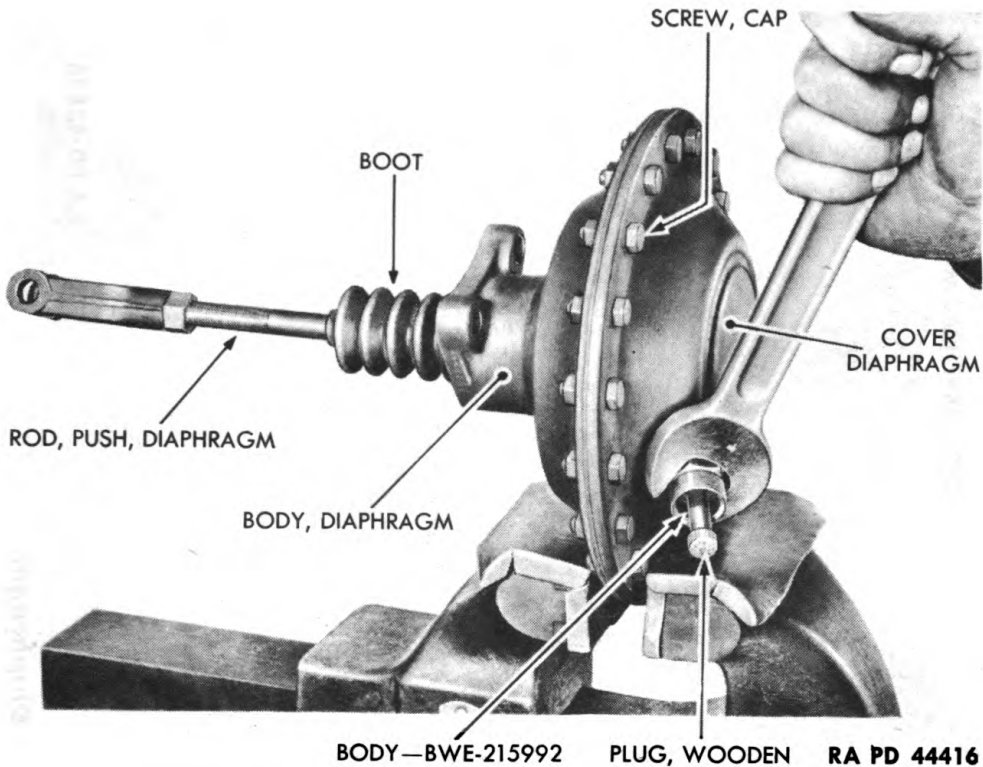

Figure 297—Removing Hose Connector Body
(3) Remove four cotter pins BFAX1CC from two pins A173500. Tap pins out of latch A173504 and rod A173506.
(4) Slide rod and spring A173502 out of lug on lever B159951.
(5) Repeat procedure as described in steps (1), (2), (3), and (4) above to disassemble other hand brake lever.
g. Disassemble Air Brake Diaphragm (figs. 297 and 298).
(1) Place air brake diaphragm in a vise fitted with copper jaws. Remove connector body BWE-215992.
(2) Unscrew and remove diaphragm push rod yoke, and remove nut from push rod.
(3) Pull boot off diaphragm body and push rod.